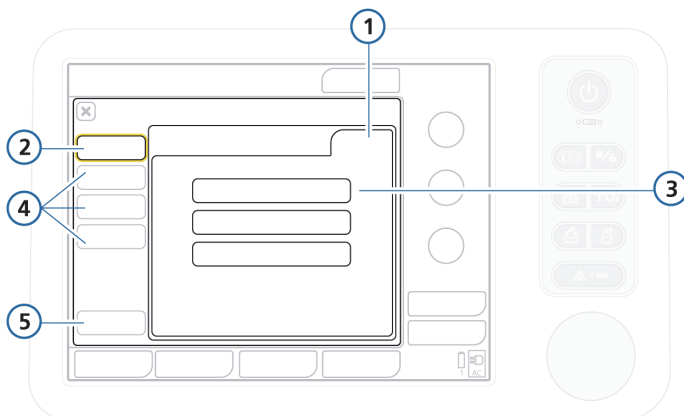

Figure I-9. Setup configuration window
The General setup configuration window is displayed (Figure I-9). Note that the buttons in the left panel now change to provide access to the setup options.
5. Select the configuration settings to apply to this setup by touching the appropriate button (Figure I-9):